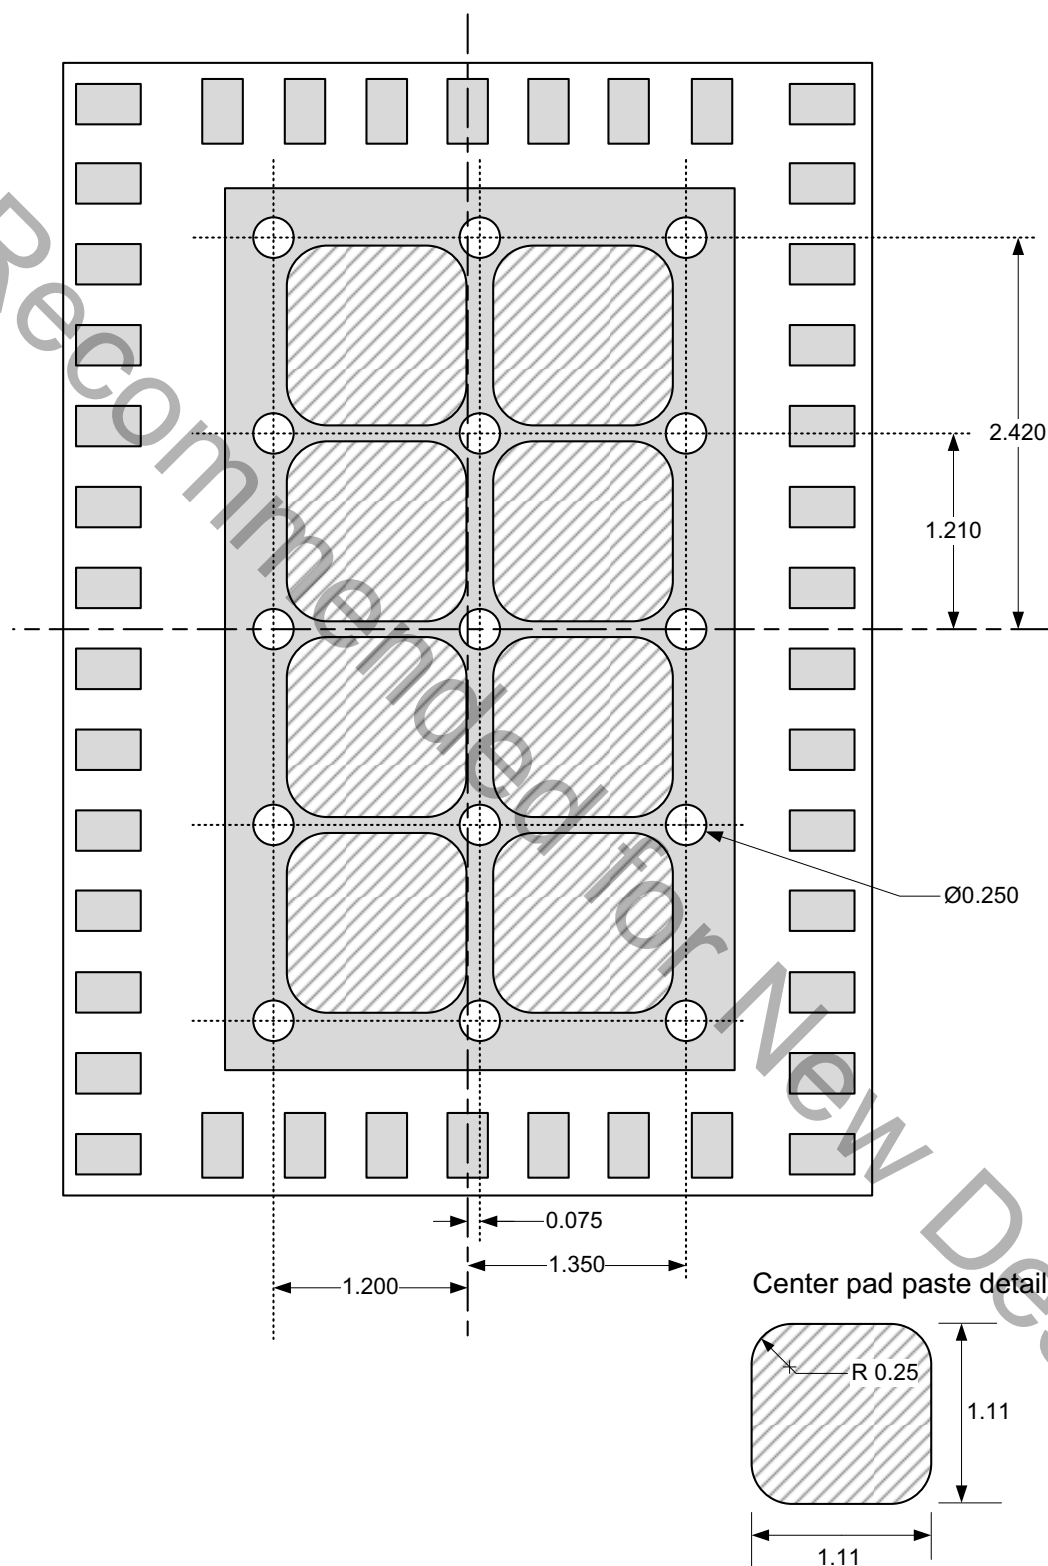

Figure 3.5. LGA-42 PCB Stencil and Via Placement
5. Place vias in E-pad as shown in Figure 3.5.
7. Place ground pad openings as shown in Figure 3.5.